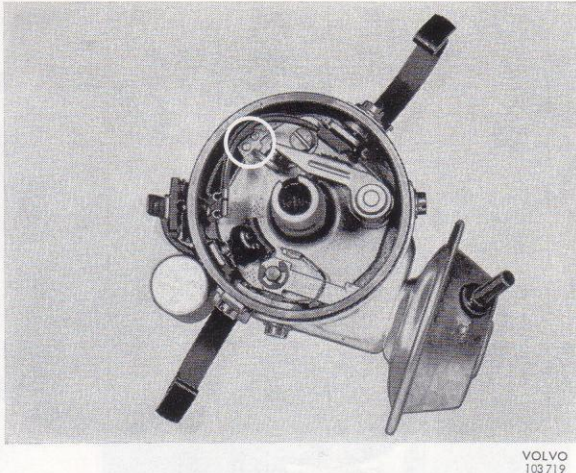

Fig. 110. Recess for adjusting contact breakers
2. Adjust by slackening a little the screw for the breakers contact and inserting a screwdriver in the recesses, see Fig. 110. Turn the screwdriver until the dwell angle is the correct one. Then tighten the screw for the contact breakers.